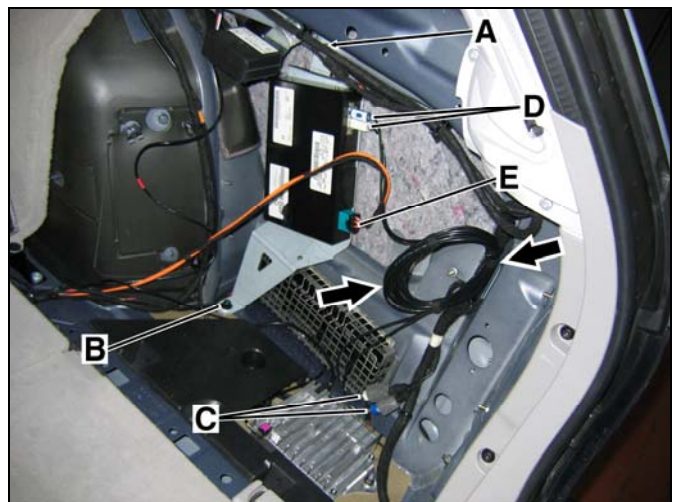

Figure 17
- a. Secure the upper arm (A, Figure 17) of the bracket to the fastening point on the quarter panel with the kit-included, M6 nut.
- b. Secure the lower arm (B, Figure 17) of the bracket to the fastening point on the floor with the kit-included, plastic nut.
4. Connect the blue and white connectors of the antenna dampening cable (Arrows, Figure 17) to the like-color connectors of the preinstalled antenna leads (C, Figure 17).
5. Connect the blue and white connectors of the other end of the antenna dampening cable to the like-color connectors of the SDARS control module (D, Figure 17).
6. Secure the antenna dampening cable to the vehicle harness with wire ties (Arrows, Figure 17).
7. Connect the power supply/MOST connector (E, Figure 17) to the SDARS control module.